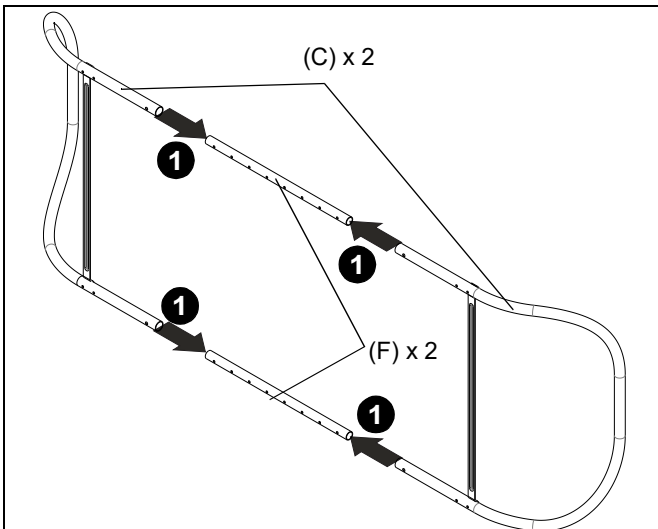

Figure 1
1. Slide together two outside frames (C) and two center joiner tubes (F). (See Figure 1)